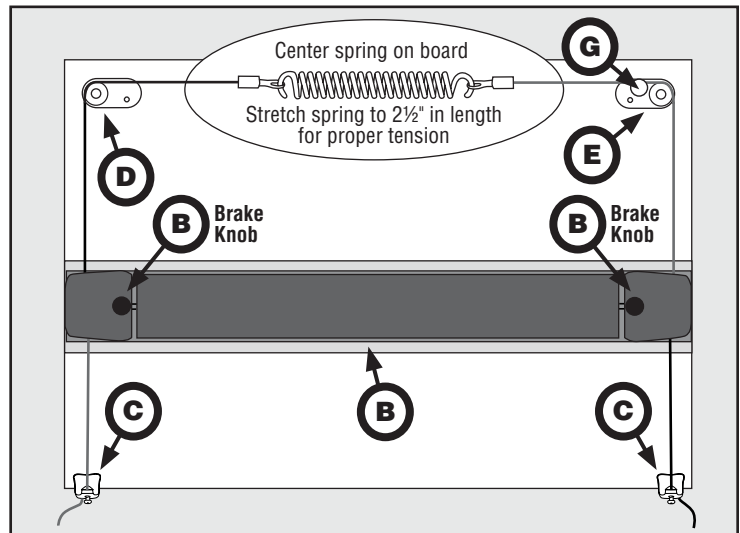
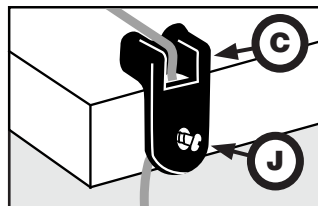

Figure 5
Figure 6
- 8** Place straightedge in center of board parallel to front edge as shown in **Figure 5**. Loop upper wires around rear pulleys in rear wire connectors making sure that spring is centered.
- 9** Thread lower left and lower right wires through front wire connectors. Wire should pass between connector and board as shown in **Figure 6**. With spring still centered at top, pull slack out of wire passing through lower left connector and wrap wire around mounting screw. Fasten screw securely. Repeat on the right side, using care to set spring tension as directed in **Figure 5** for best performance.
- 1** Be sure both brake knobs (**B**) and rear adjustment knob (**G**) are free and loose. (See **Figure 5** for knob locations.)